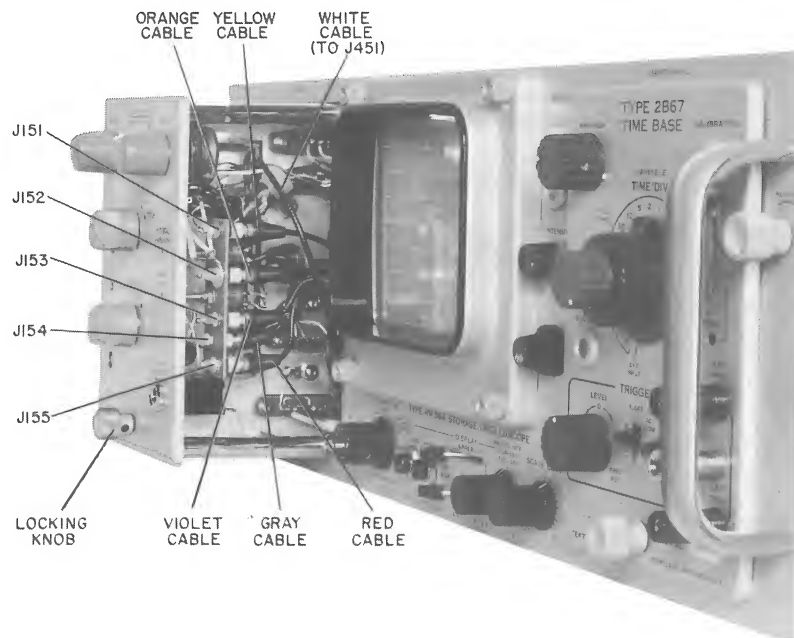

Figure 5-2. Receiver plug-in partially pulled out of main chassis.
c. Rotate the locking knob at the bottom of the front panel ccw until the latch releases (Figure 5-2).
e. Locate the six coaxial cables with the miniature coaxial connectors attached and disconnect each of the coaxial cables at the rear of the front panel (Figure 5-2).
b. Connect each of the six coaxial cables to the jacks provided according to the colorcoding (Figure 5-2).